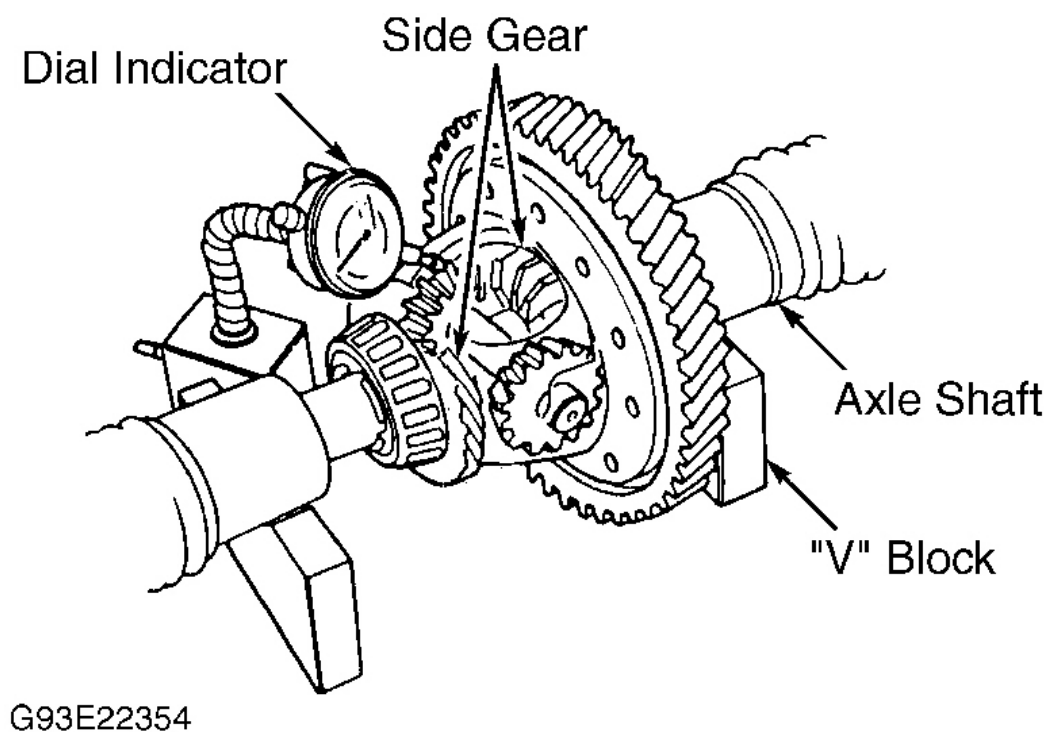

Fig. 30: Checking Side Gear Backlash
2. Install dial indicator with stem resting against pinion gear. See **Fig. 30**. Check side gear backlash. Side gear backlash should be within specification. See **SIDE GEAR BACKLASH SPECIFICATIONS** table.